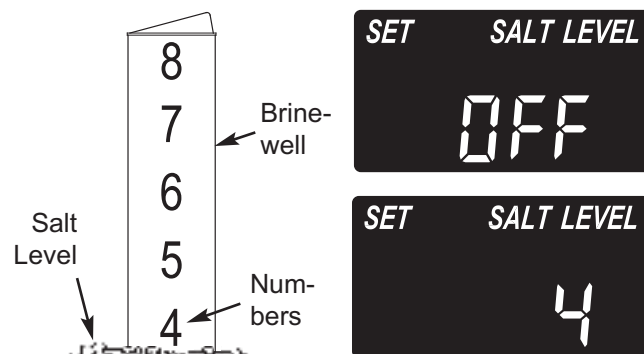

FIG. 24
- The salt level scale, on the brine-well inside the tank, has numbers from 0 to 8 (see Fig. 24). Observe the highest number the leveled salt is at, or closest to.